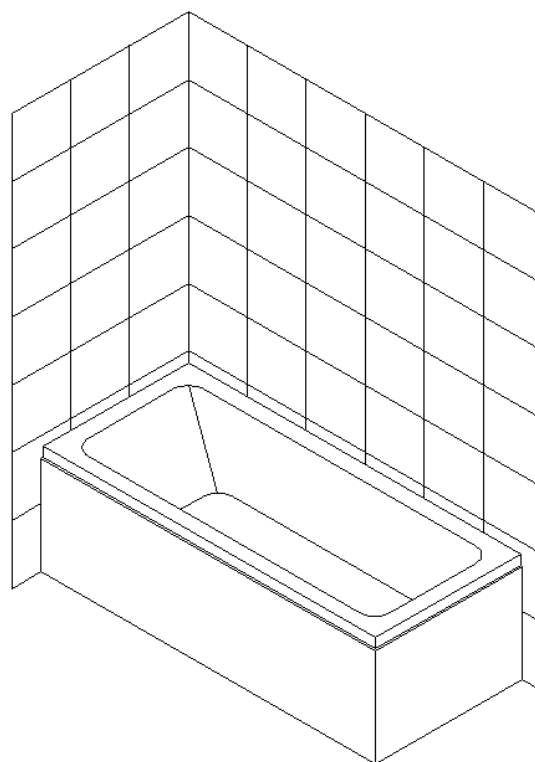

Fig 1
1. Prepare your finished opening for installation. Clean all surfaces and remove any debris or construction materials. See Fig 1.